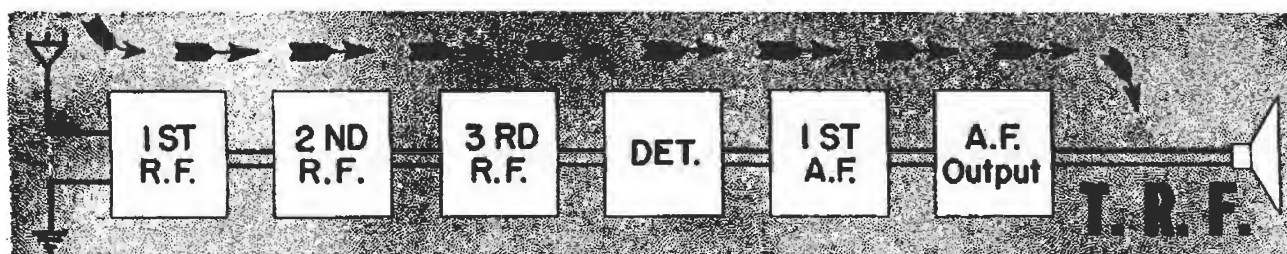

FIG. 2. Block diagram of a t.r.f. receiver.
T.R.F. Receiver. The one-way-travel characteristic of signals in a radio receiver can be illustrated by means of the t.r.f. receiver block diagram shown in Fig. 2. Here a signal picked up by the antenna-ground system travels through each stage in turn, finally arriving at the loudspeaker. Under normal conditions the signal never travels in the reverse direction.